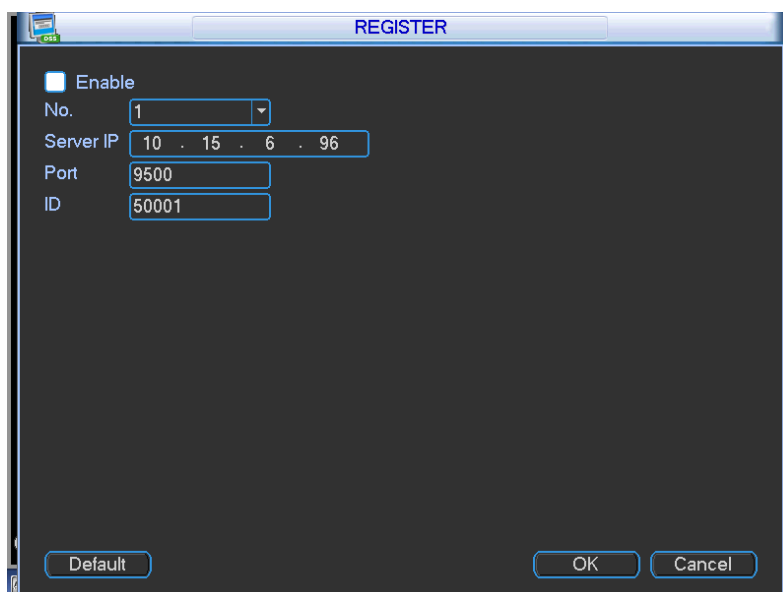

Figure 4-27
1) The setup interface is shown as in Figure 4-27.
3) Now you can add device. Please do not input default port number such as the TCP port in the mapping port number. The device ID here shall be the same with the ID you input in Figure 4-27. Click Add button to complete the setup.